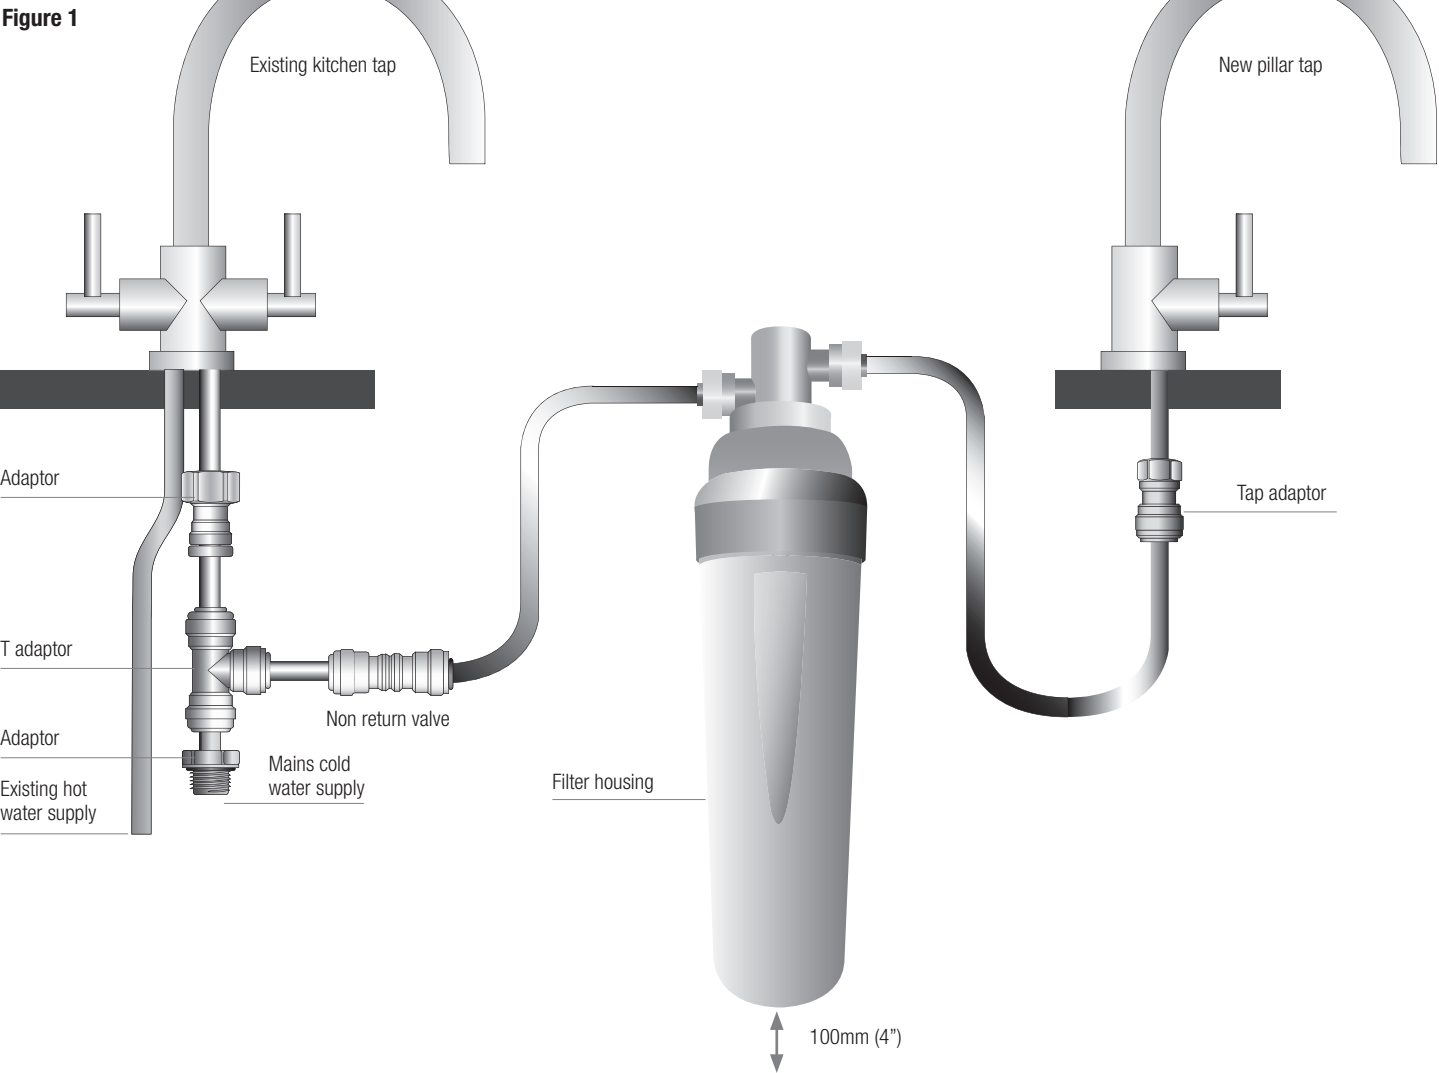

Figure 1
- 3.4 Ensure that connecting pipe work will not have any sharp bends. Allow min 100mm (4") clearance below assembled filter for removal/service of the cartridge – see figure 1